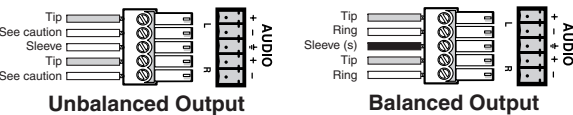

Figure 2-8 — Audio output connector wiring
- 8 Stereo audio 5-pole captive screw connector — Connect audio devices, such as an audio amplifier or powered speakers, to these connectors. These 3.5 mm, 5-pole captive screw connectors output unamplified, line level audio. Figure 2-8 shows how to properly wire an output connector.